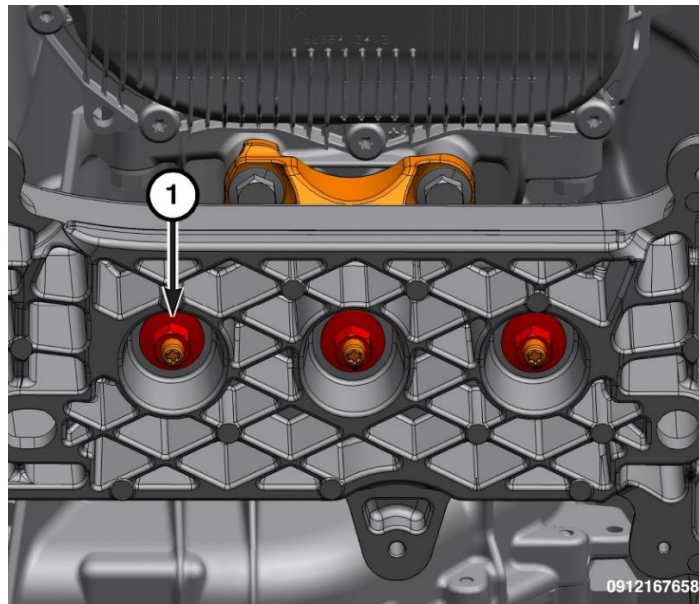

Figure 1.
1. Loosen the transmission mount to transmission crossmember nuts. (Figure 1)